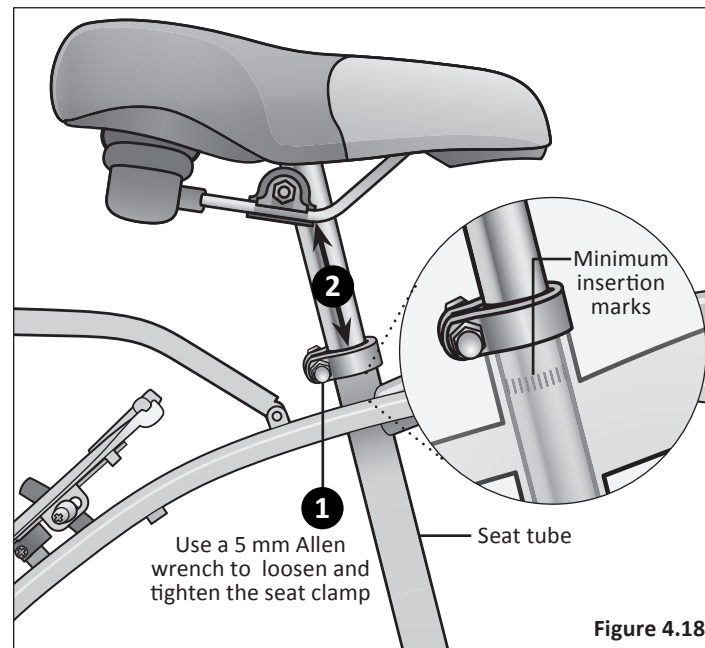

Figure 4.18
- ❶ Using a 5 mm Allen wrench, loosen the seat clamp bolt. **Figure 4.18**
- ❷ Adjust the seat height up or down until the rider feels they have control of the bicycle and are comfortable.